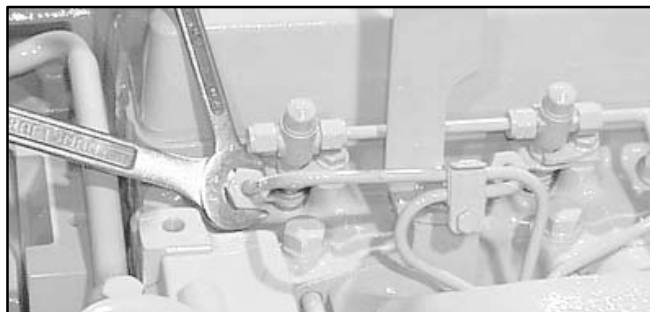

FIGURE 7-15. LOOSENING FUEL INJECTION LINES
2. Disconnect the fuel injection line from the nozzle using a backup wrench on the nozzle connection as shown in Figure 7-15.